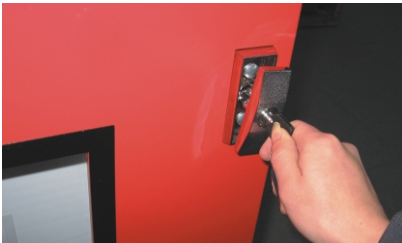

Figure 7 Insert key and turn handle
4. Insert the front door lock key and turn clockwise; the handle will pop out (*Figure 7*). Then turn the handle counter clockwise until the door opens.